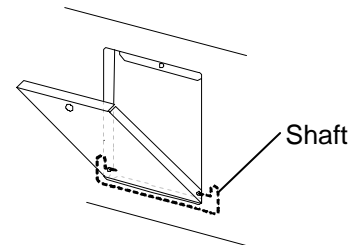

Fig. 14
2. Remove the screw on the cover for the recorder space on the lower front of the freezer. Open the cover and push the shaft on the both sides outward to remove the cover. Fig. 14